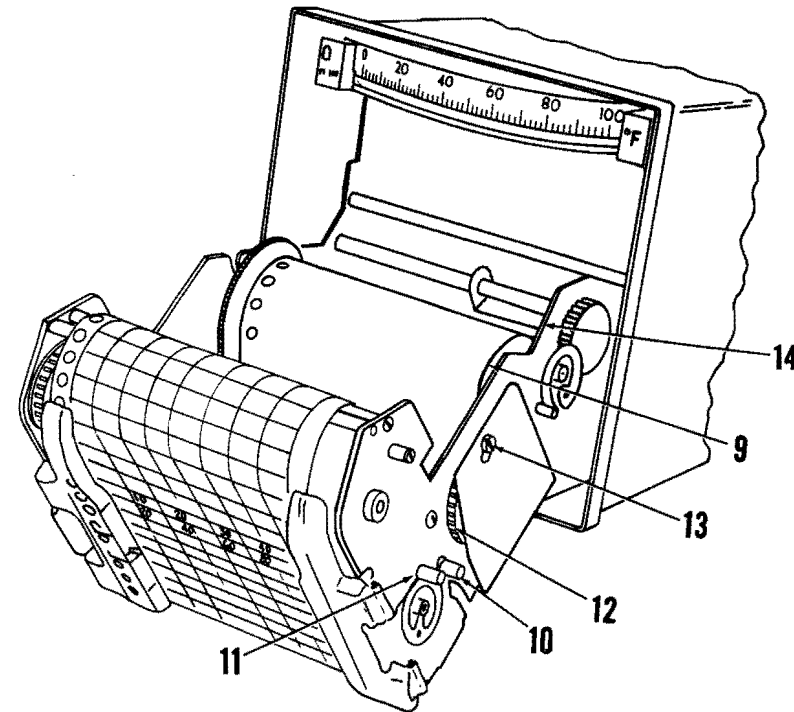

Figure 3-2. Chart Drive Mechanism Pulled Out and Tilted
NOTE: Item numbers 9 through 14 correspond with call-outs in Figure 3-2.
4.3.3 Chart Drive Unit (see Figure 3-2)
- c. Using the finger grips (refer to Table 3-1, item 4), pull the chart drive unit from the case until the stop engages (which limits the travel). The mechanism now can be tilted downward (see Figure 3-2).
- b. Loosen the retaining screw (Fig. 3-2, item 13).
NOTE: Hold the guide arm (Figure 3-2, item 14) out-of-the-way to facilitate end-pin/side-slot alignment.